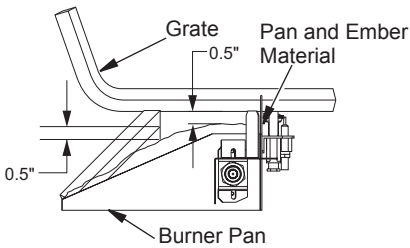

Figure 24 - Pan and Ember Material Clearances
4. Place just enough to cover the entire surface and leave about a 1/2 inch gap under the lower grate members to allow air to flow (see Figure 24, page 15).